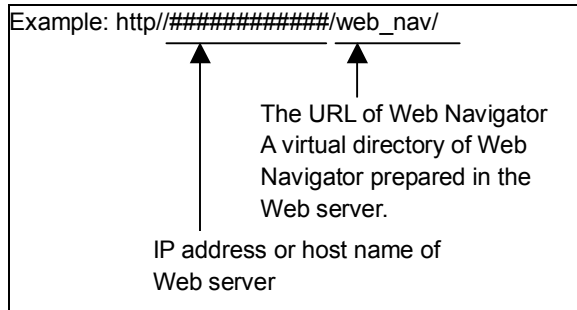

Figure 4.1 Specify URL
- Activate the browser and specify the URL as follows. See Figure 4.1.